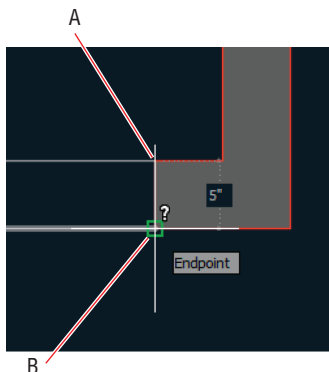

FIGURE 6.16 Measuring the wall thickness with Measure
- Zoom into the entry and click the Measure tool in the Utilities panel. Click points A and B shown in Figure 6.16 to measure the wall thickness. The tooltip reads 5" (12.7 in metric). Press Esc.